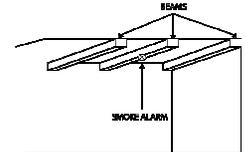

Figure 6: Recommended locations on ceilings with exposed joists or beams.
- On ceilings with exposed joists or beams, Smoke Alarms shall be mounted on the bottom of the joists or beams as shown in Figure 6.